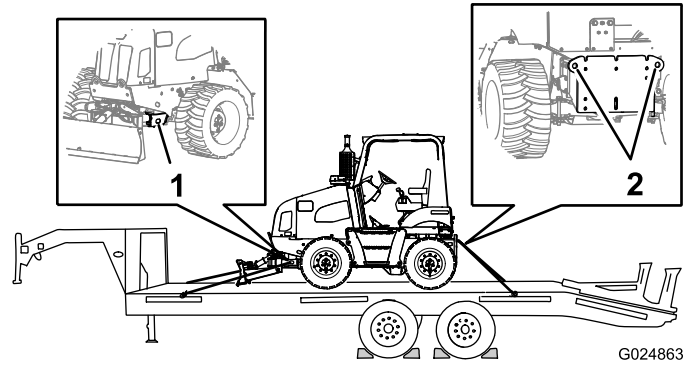

Figure 58
9. Fasten the front and rear of the machine to the trailer using chains and a binder (Figure 58).